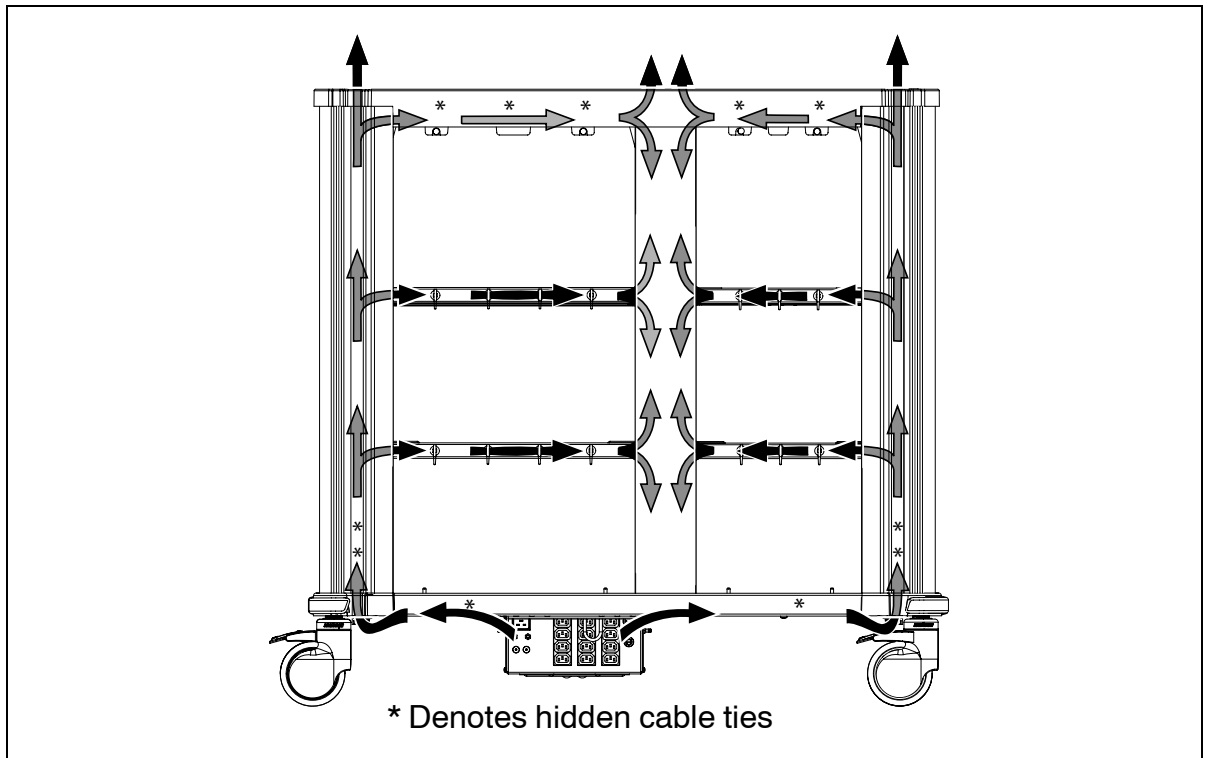

**Figure 4.4**
1. Place items of equipment centrally on the shelving and connect according to individual instructions. The WM-DP1 mobile workstation is supplied with a universal IEC lead set to connect equipment on the mobile workstation to the transformer. Potential equalisation terminals are fitted to both sides of the transformer enclosure for connection to equipment potential equalisation terminals where fitted. Route all cabling neatly in the side column cable ducts on the extrusion and along the rear of the shelves, secure using the releasable cable ties (see Figure 4.4).